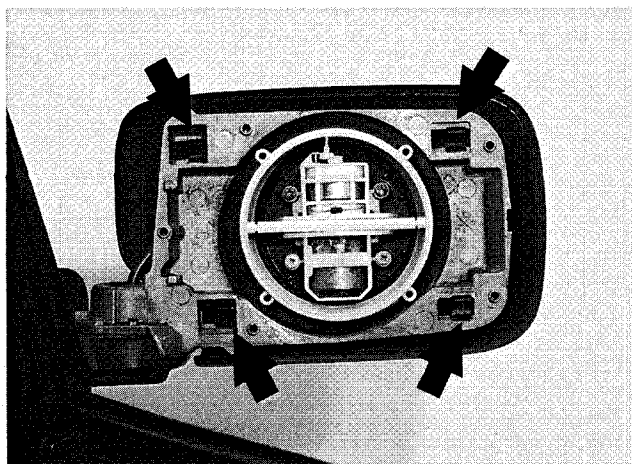

Fig. 3. Use needle-nose pliers to release retainers (**arrows**).
3. Tilt mirror housing forward and compress plastic retainers and lift off front housing. See Fig. 3.